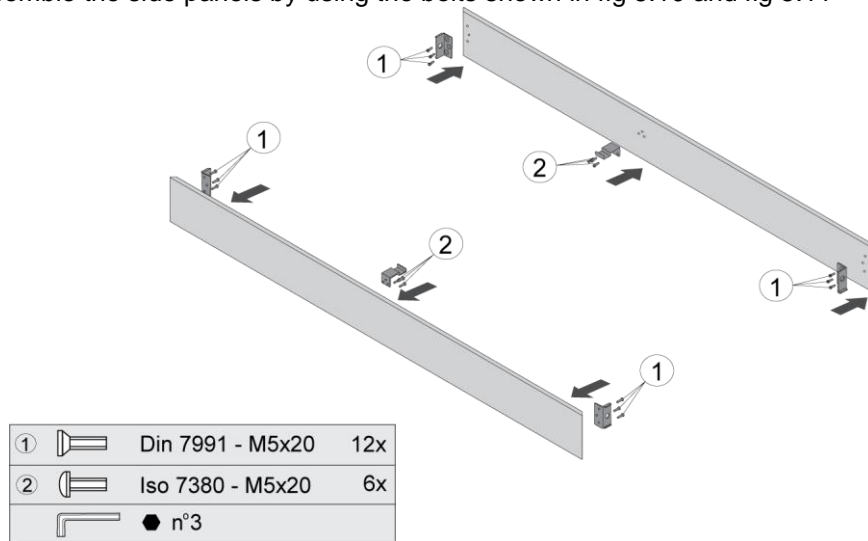
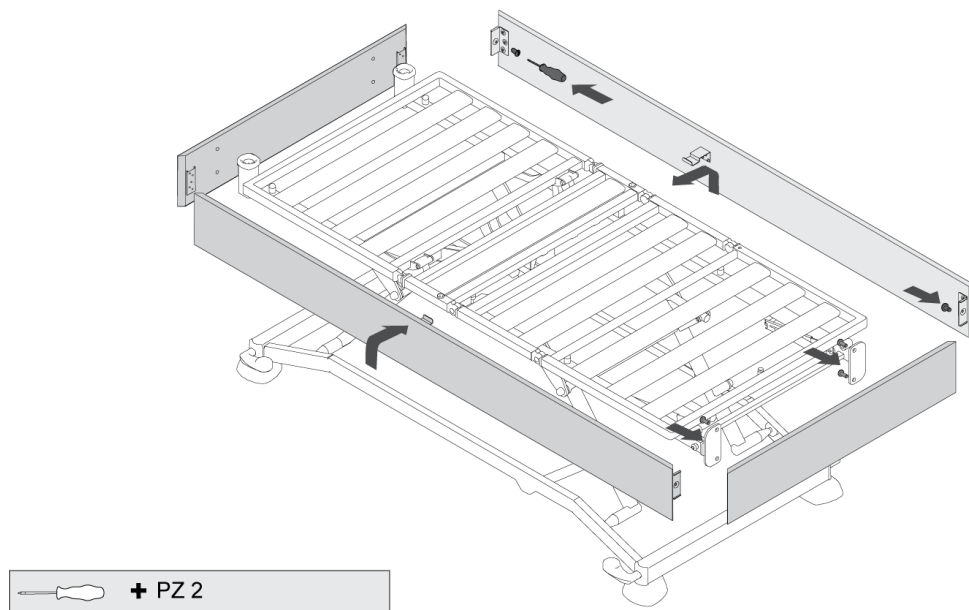

Figure 5.10: Assembly of the side panels (1)
Figure 5.11: Assembly of the side panels (2)
- Assemble the side panels by using the bolts shown in fig 5.10 and fig 5.11